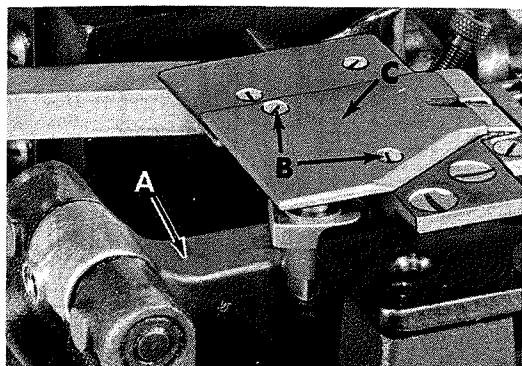

Fig. 18
Cutting edge of the lower knife should overlap the thread opening by 1/64 inch (.40mm) to cut properly. The back edge of the knife should not enter the thread opening forming a triangle where the thread chain could get caught. The lower knife is driven by the feed bar (A, Fig. 18).
To adjust lower knife; (1) remove screws (B, Fig. 18).